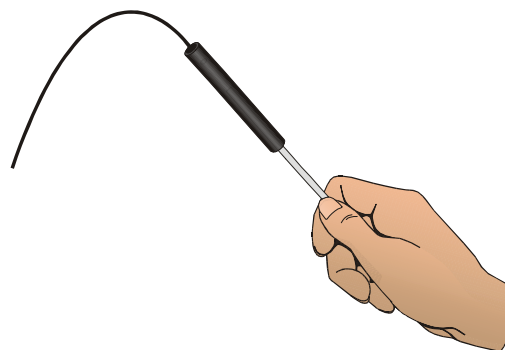

Figure 2
- a. Group member number one should pick up the Temperature Probe and hold its tip in the palm of his/her hand as shown in Figure 2.